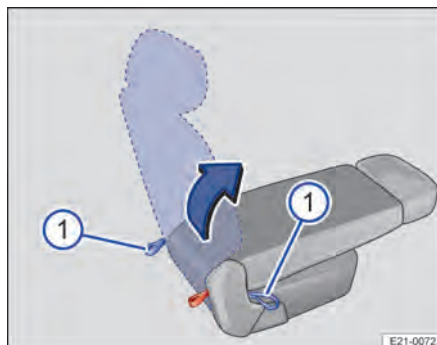

Fig. 64 Second row of seats: folding backrest forward and back.
4. Pull one of the loops → Fig. 64 ① behind the seat or at the side of the seat forwards and hold. Fold the backrest forward a little and release the loop.
1. Pull one of the loops behind the seat or at the side of the seat forwards and hold → Fig. 64 ①. Fold the backrest up a little and release the loop.